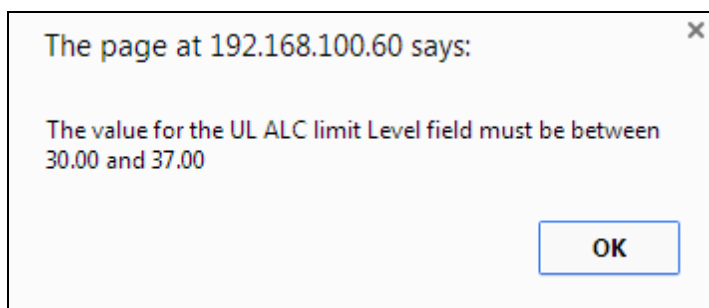

Figure 11 – Value is not into valid range error message
- If the value is not valid, an error message will be displayed (see Figure 11) and the new value will be not accepted keeping the previous value.